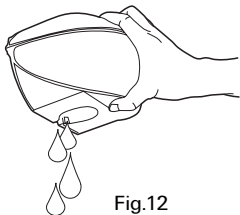

Fig.12
1. After use, slide out the water tank and pour out all the remaining water. (See Fig.12)